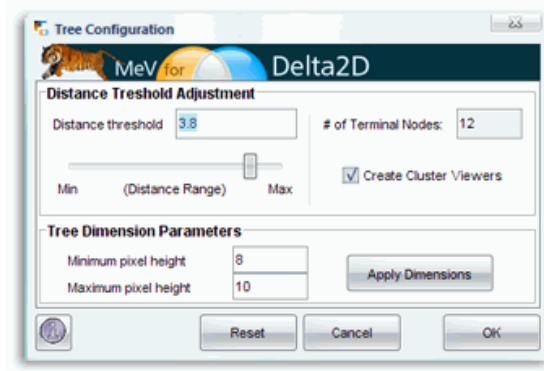

Figure 5.65.: Cut a tree by a distance threshold. Use the slider to adjust the threshold.
- Use the slider to cut the tree at a certain distance from the root (fig. 5.65 on page 139).